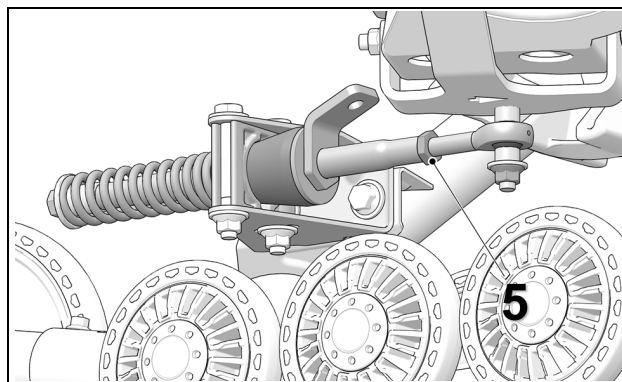

Figure 16
- Re-tighten jam nut (5) to 40 N·m [30 lb-ft] of torque when adjustment is complete. Figure 16.